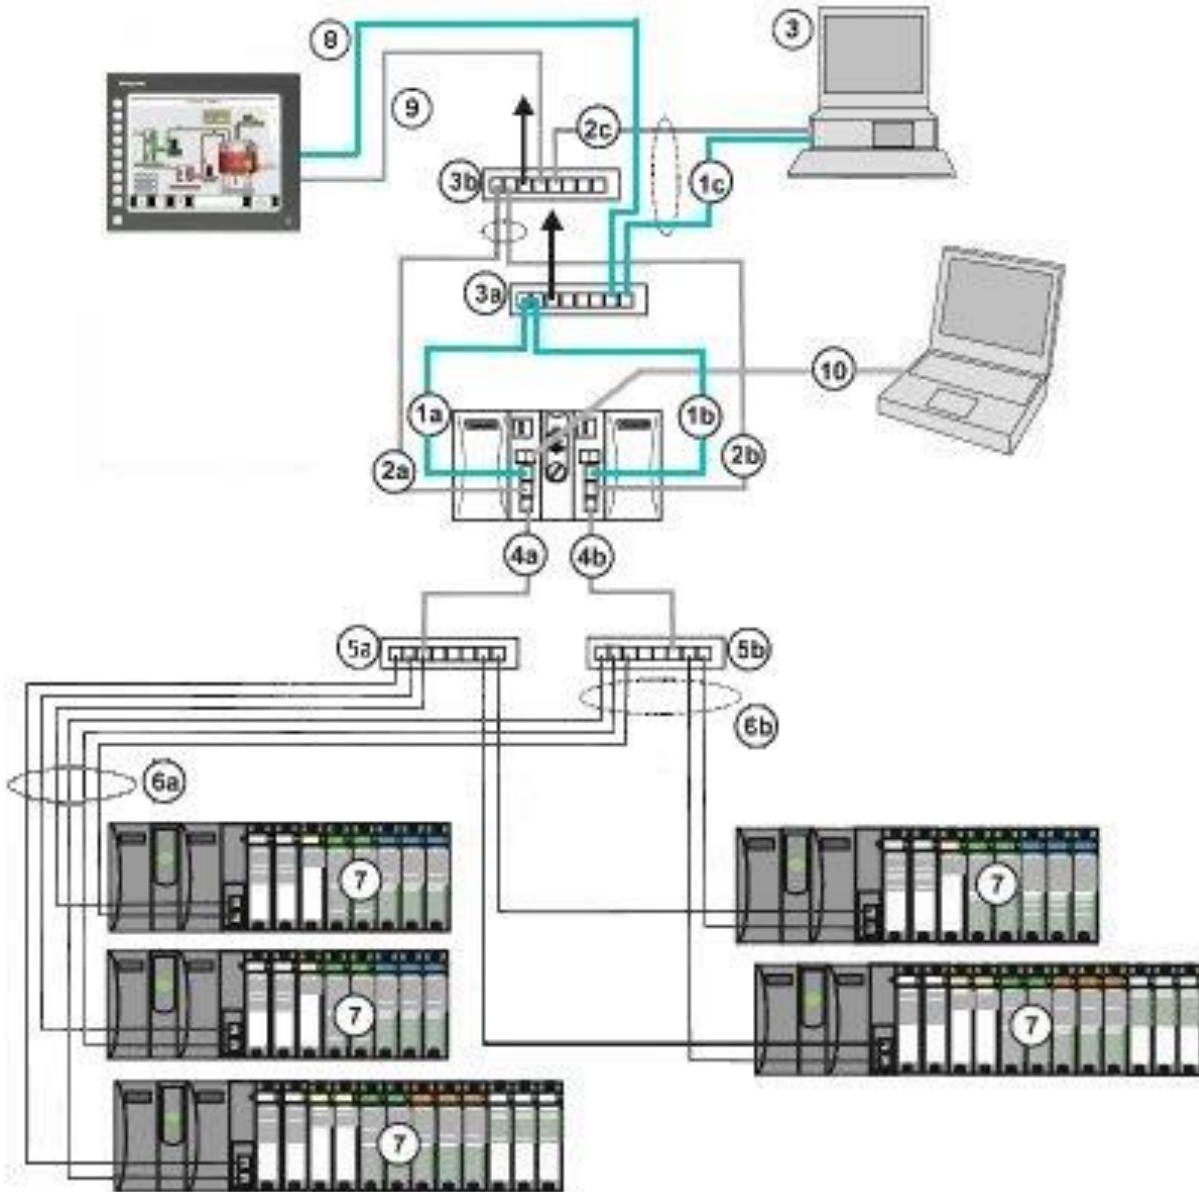

Figure 78 – Dual Networks (see Table 20)
Only use Shielded CAT 5 cable for network connections. See Figure 78 and Table 20.
**Table 20 – Dual Network connections in Figure 78**